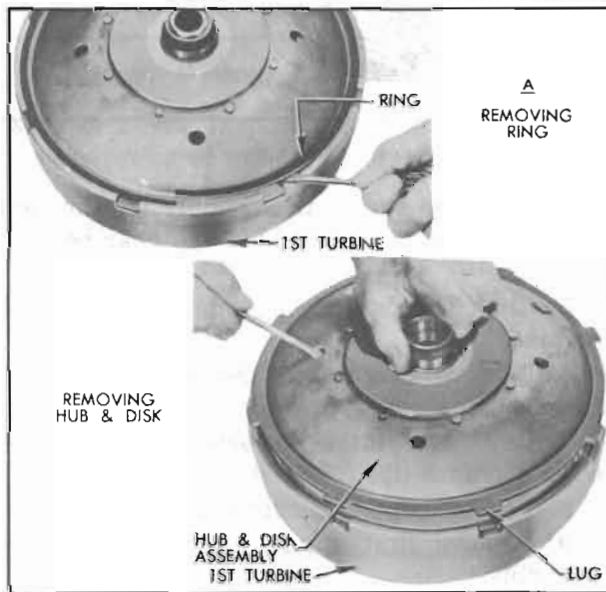

Figure 5-40—Removing Disk and Hub Assembly
1. Pry retaining ring out of groove in first turbine, insert screwdriver in a hole in the disk and lift disk and hub assembly out of first turbine. See figure 5-40.